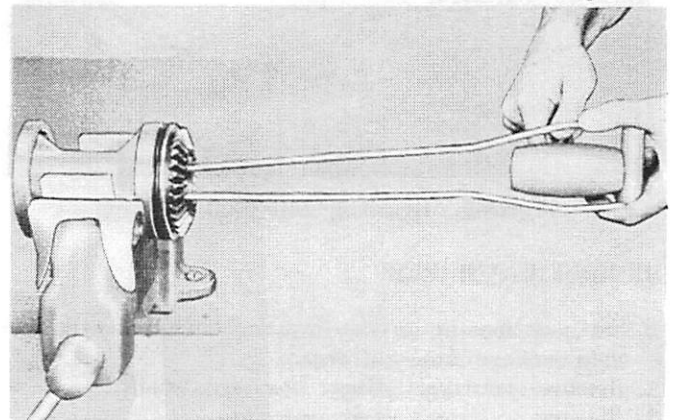

Figure 3. Pulling Reverse Gear from Bearing Carrier
9. Remove reverse gear and ball bearing from bearing carrier with 91-27780 tool, as shown in Figure 3.